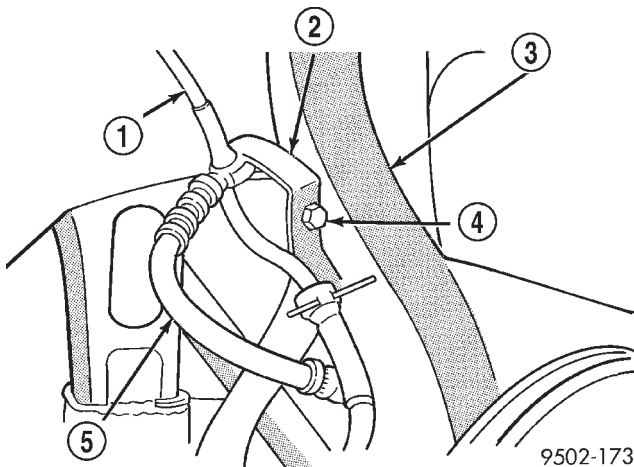

Fig. 19 Speed Sensor Cable Routing Bracket
(10) Remove the speed sensor cable routing bracket (Fig. 19) from the steering knuckle.
(6) Install the speed sensor cable routing bracket on the steering knuckle (Fig. 19) and securely tighten the attaching bolt.